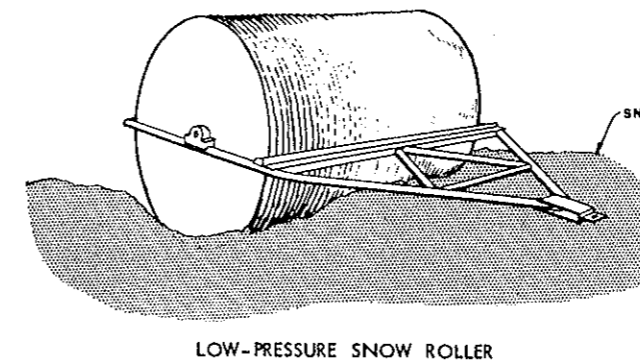

Figure 122.
4. What are the methods used to compact snow on airfields and roads? What equipment is used (fig. 122)?